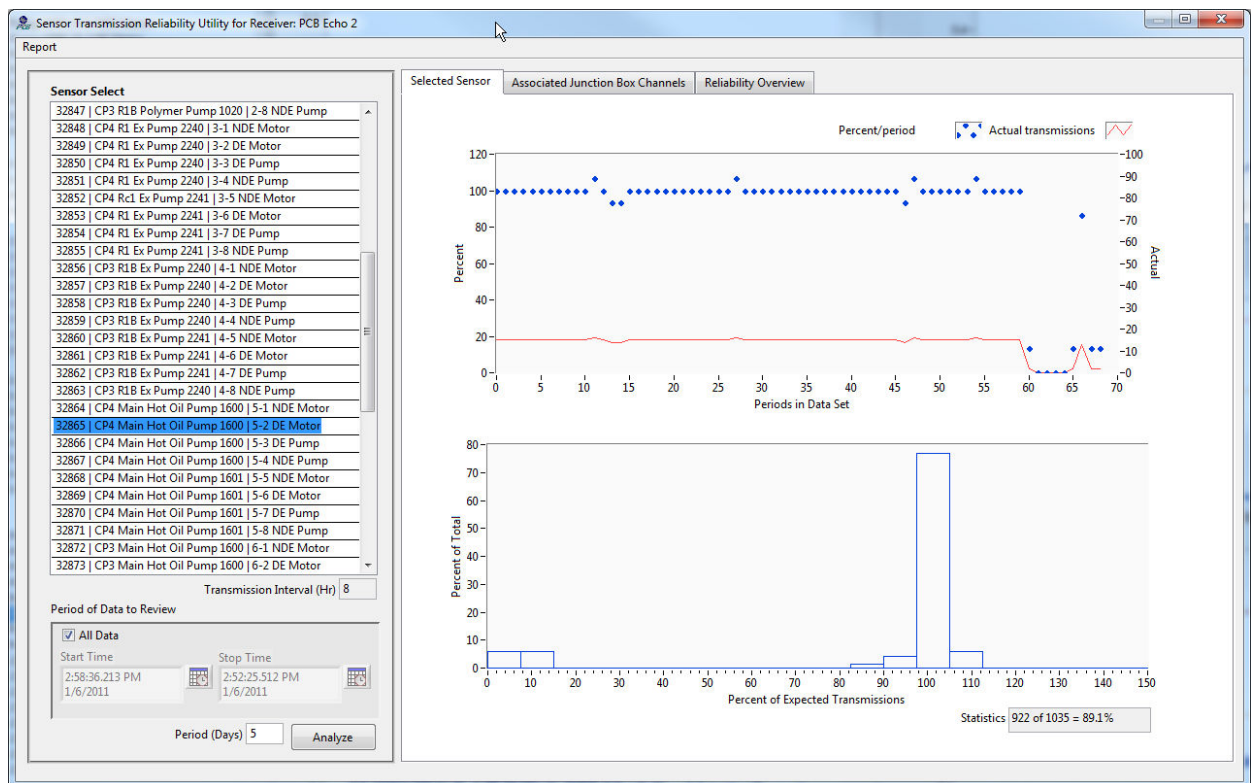

Figure 90 – Echo[®] Sensor Transmission Reliability Utility – Selected Sensor Tab
- **Selected Sensor Tab**(Figure 90) - This tab contains two graphs and an overall statistic of how many transmissions were expected and how many were received.
- The graph on the bottom is a histogram of how often, in groups of 10%, that percent of transmissions was achieved. In the bottom graph shown in Figure 90 we see that 100% of the selected sensors transmissions were received almost 80% of the time for the period reviewed. This is excellent since occasionally more than 100% were received, which can happen if the power is cycled on the sensor to produce 'extra' transmissions. And we see the over some periods 0% were received indicating power was likely removed for maintenance or some other reason.